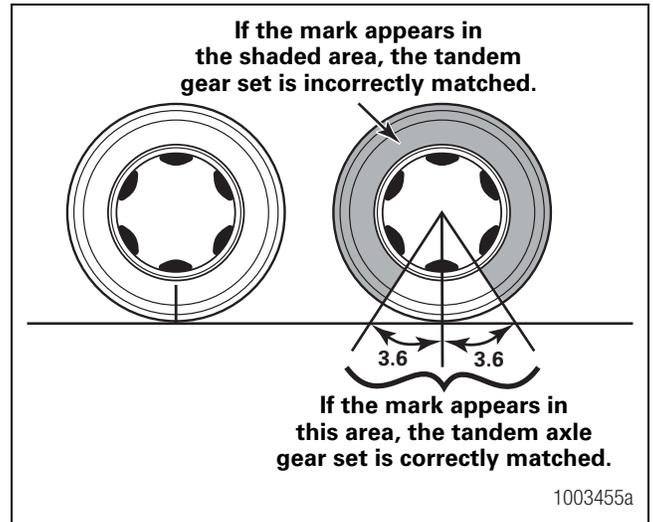

Figure 4.18
- Note the positions of the tire marks you previously made. On a correctly matched tandem axle gear set, both tire marks will be within ± 3.6 degrees of each other. Figure 4.18.